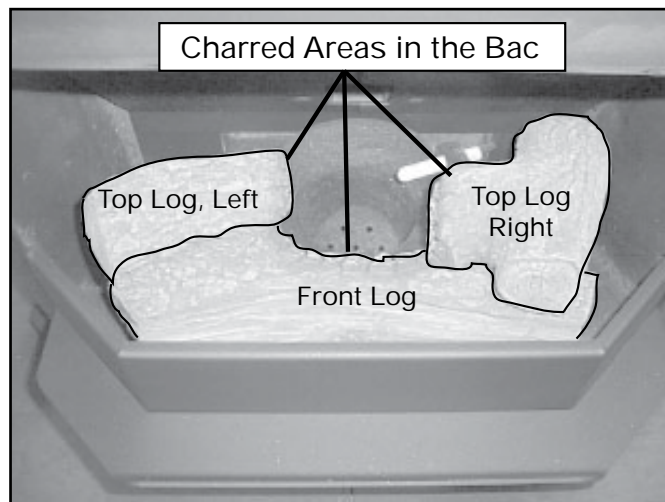

Figure 24.2
2. Set the left and right logs onto the front log, placing the holes in the base of the left and right logs over the locating pins in the front log. See **Figure 24.2**. Ensure that the charred ends are facing the firepot.